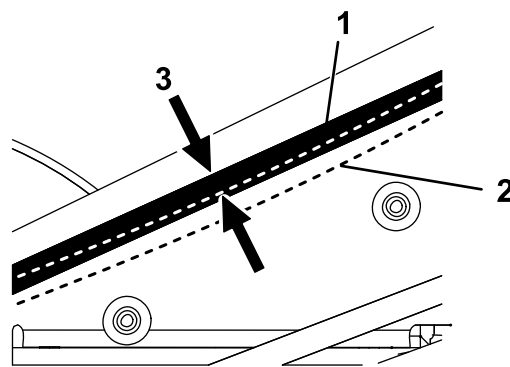

Figure 24
4. Push down on the belt to check the tension. You should be able to push the new belt down 5.6 mm (0.22 inch) using 2.9 kg (6.5 lb) of force (Figure 24).